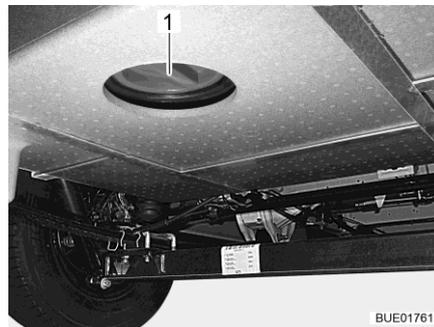

Fig. 291 Cleaning opening (waste water tank)
- Open the cleaning opening (Fig. 291,1) on the waste water tank and the drain cock.